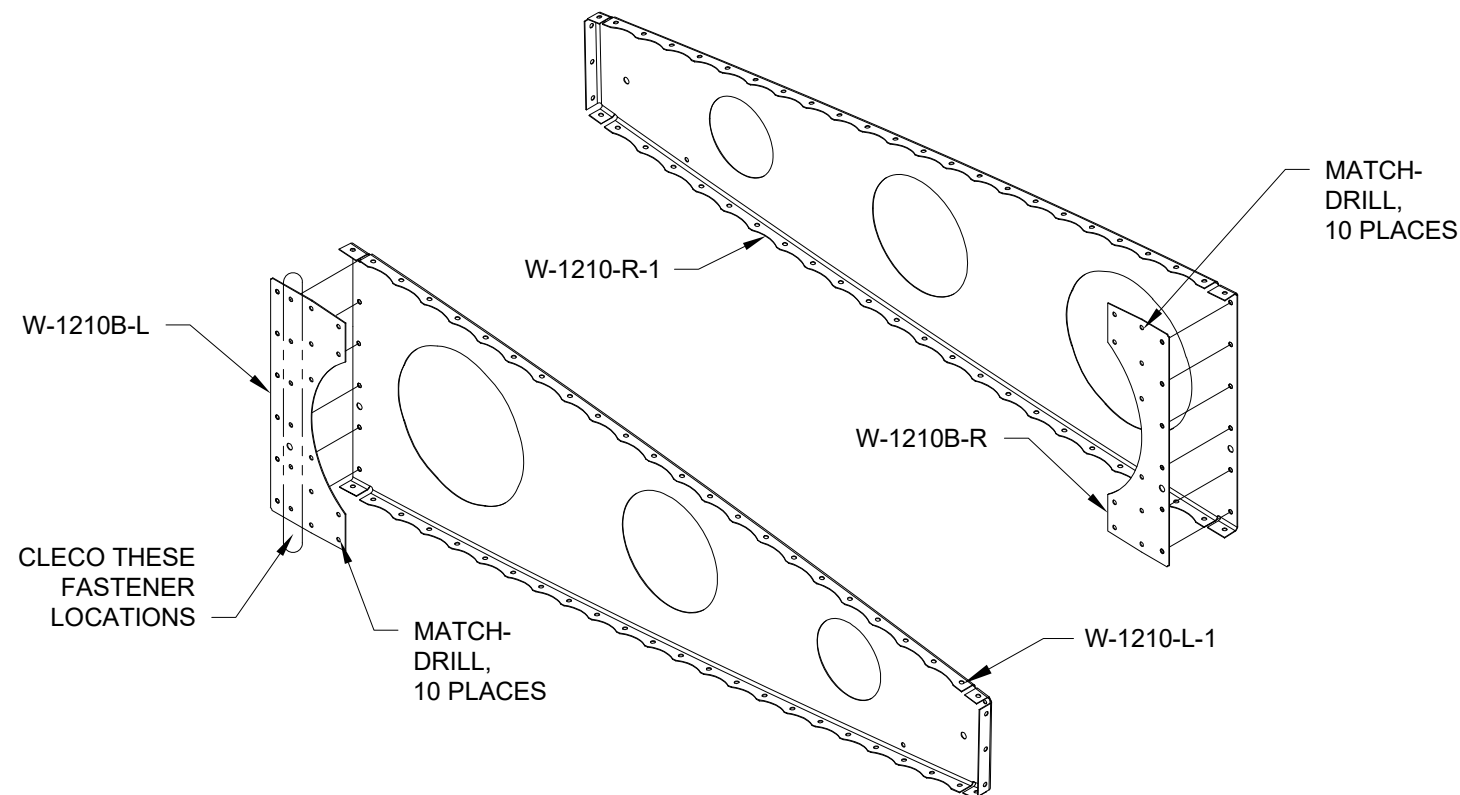

FIGURE 2: MATCH-DRILLING THE RIB DOUBLERS AND MAIN RIBS
Step 4: Cleco the W-1210B-L Rib Doubler to one of the six trimmed W-1210-L-1 Main Ribs as shown in Figure 2. Match-Drill #30 the trimmed main rib using the rib doubler as a drill guide. Uncleco the main rib and rib doubler. Deburr.
Step 5: Select one of the W-1210-R-1 Main Ribs and cleco the W-1210B-R Doubler as shown in Figure 2. Match-Drill #30 the main rib using the rib doubler as a drill guide. Remove the clecos and rib doubler. Deburr.